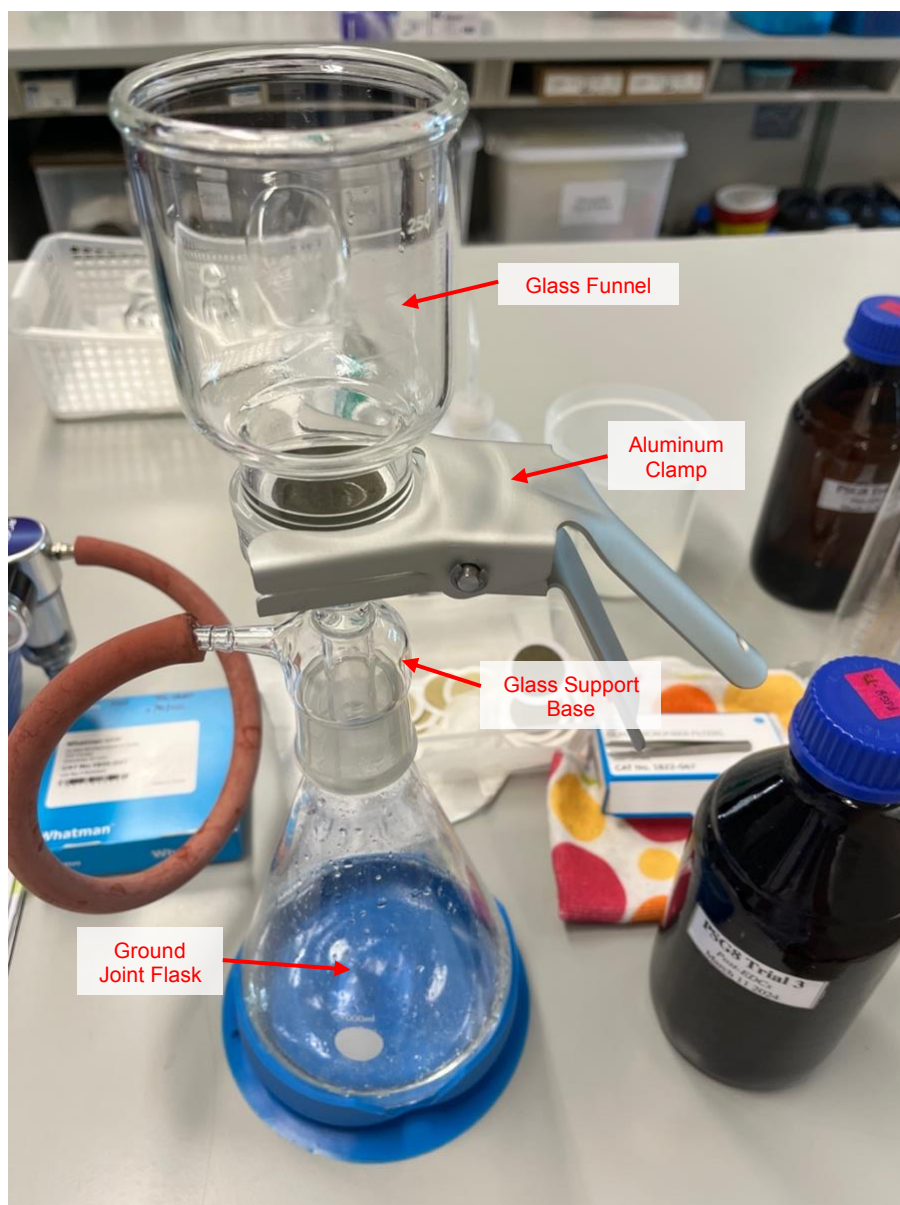

Figure 3. Vacuum filtration of river water samples.
- 4.1.3. Assemble the filtration set-up. An example of a vacuum filtration set-up is shown in Figure 3.